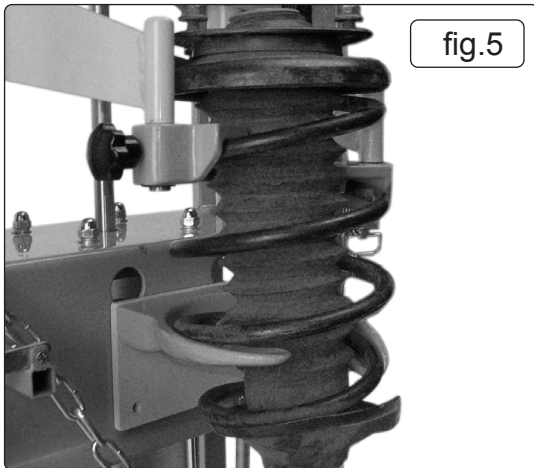

fig.5
- 7.1.3. Swing the upper arms (parts K51) into position and locate the upper clamps on the uppermost available coil (fig.5). Ensure that the coil is placed inside the recesses of the clamp to ensure that the coil will not break free under compression.